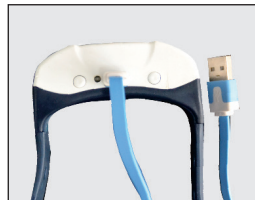

Fig. 2
2. Open the flap on the USB connector (4) and connect the supplied USB cable to the device (Fig. 2).